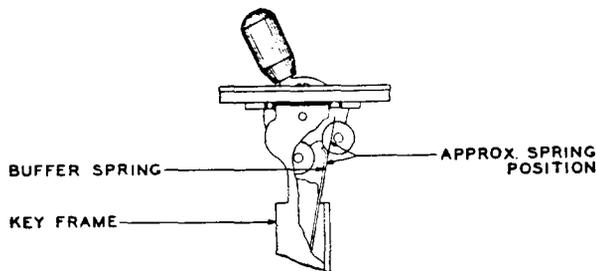

Fig. 2 — Buffer Spring Position
1.21 *Relation of Buffer Spring to Key Frame*— Spring shall not touch sides of key frame and meet rollers as in Fig. 2.
1.23 *Spring Clearance* — .012” (Readj. .015”). .040” between non-locking plunger springs and rubber separators on traveling springs. .010” between right-hand (FC) spring and separator on (T-1) spring of Fig. 2.